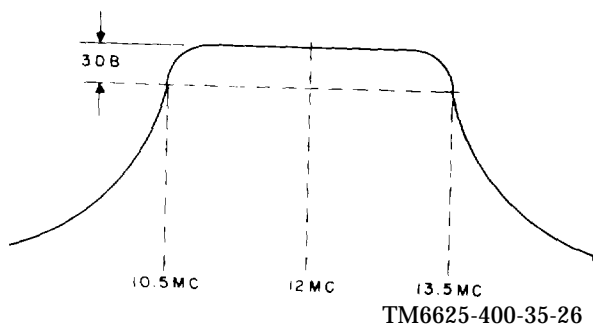

Figure 24. If. amplifier response,
Whenever repairs are made to circuitry involving V2, V3, V4, V5, and V6, the alignment of the if. amplifiers should be checked. The response curve should resemble that shown in figure 24. If the response curve is not the proper configuration, the if. amplifier will need alignment. Check and align the if. amplifier as follows :
i. If the response curve does not resemble closely that shown in figure 24, adjust the trimmers of T6, T5, T4, T3, T2, and T1 in that order.
e. If the response does not resemble closely that shown in figure 24, adjust trimmers of T7 and T6 to obtain the proper curve. Adjust T7 first, and work toward the if. amplifiers.